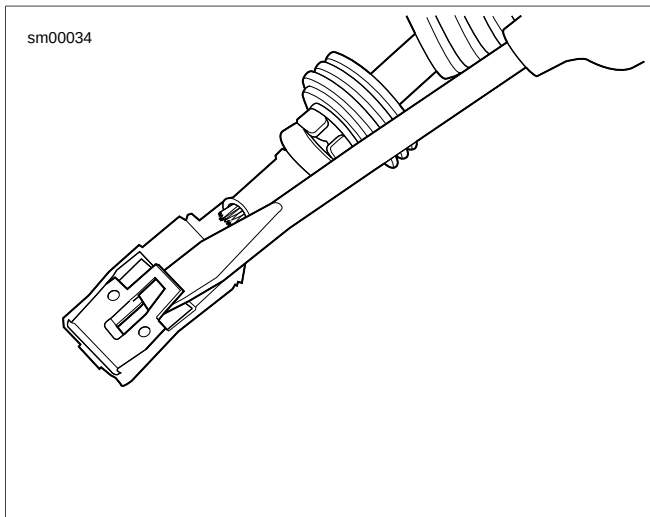

**Figure A-12. Delphi 800 Metri-Pack Sealed Main Fuse
1. See Figure A-12. Carefully bend tang outward away from the terminal body.